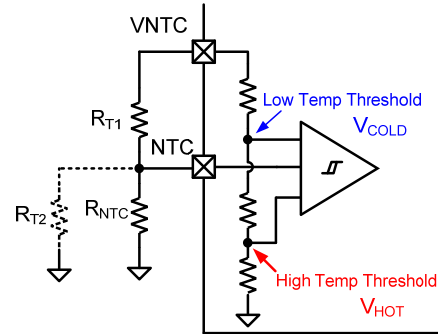

Figure 16: NTC Function Block
Figure 16 shows an internal resistor divider reference circuit that limits both the high and low temperature thresholds at V_{HOT} and V_{COLD} , respectively. For a given NTC thermistor, select an appropriate R_{T1} and R_{T2} value to set the NTC window using Equation (25) and Equation (26):
The following equation calculations are derived assuming that the NTC window is between 0 $^{\circ}$ C and 50 $^{\circ}$ C. According to Equation (25) and Equation (26), use V_{COLD} and V_{HOT} from the EC table to calculate $R_{T1} = 2.27$ k Ω and $R_{T2} = 6.86$ k Ω (see Figure 16).